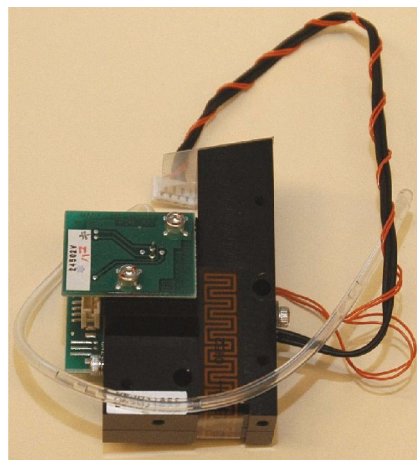

Fig.5: CRP unit
- ◆ Remove the CRP unit (See “Fig.5: CRP unit, page 3”).